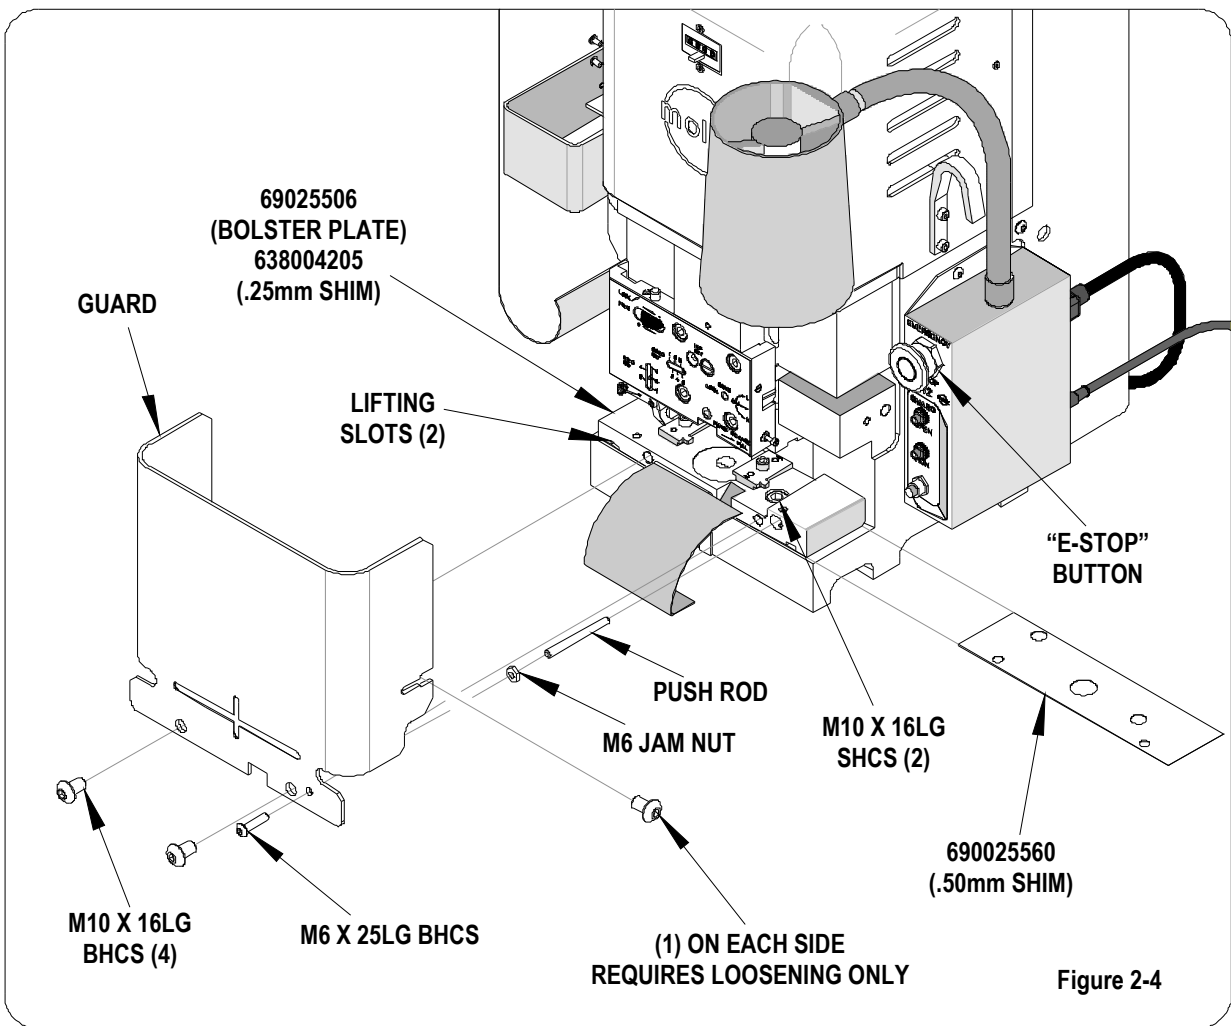

Figure 2-4
1. Remove the press guards by removing the (2) M10 BHCS (See Figure 2-4) located on the front bolster plate, and loosen (1) on each side. Once removed, the guard interlock switch will disconnect power to both the motor and clutch.
2. Remove the push rod from the hole on the right side of the bolster plate. If necessary, remove any tooling, and then remove (2) M10 SHCS attaching the bolster plate to the press frame.
3. Lift the bolster plate away from the locating dowels by placing a screwdriver in the (2) lifting slots on the underside of the bolster plate. Remove or install the .50mm (.020") spacer and verify the presence of the .250mm (.010") spacer.
4. Position the bolster plate on the locating dowels and refasten with the (2) M10 SHCS. Replace the push rod. Follow the tooling setup procedures in Section 3.